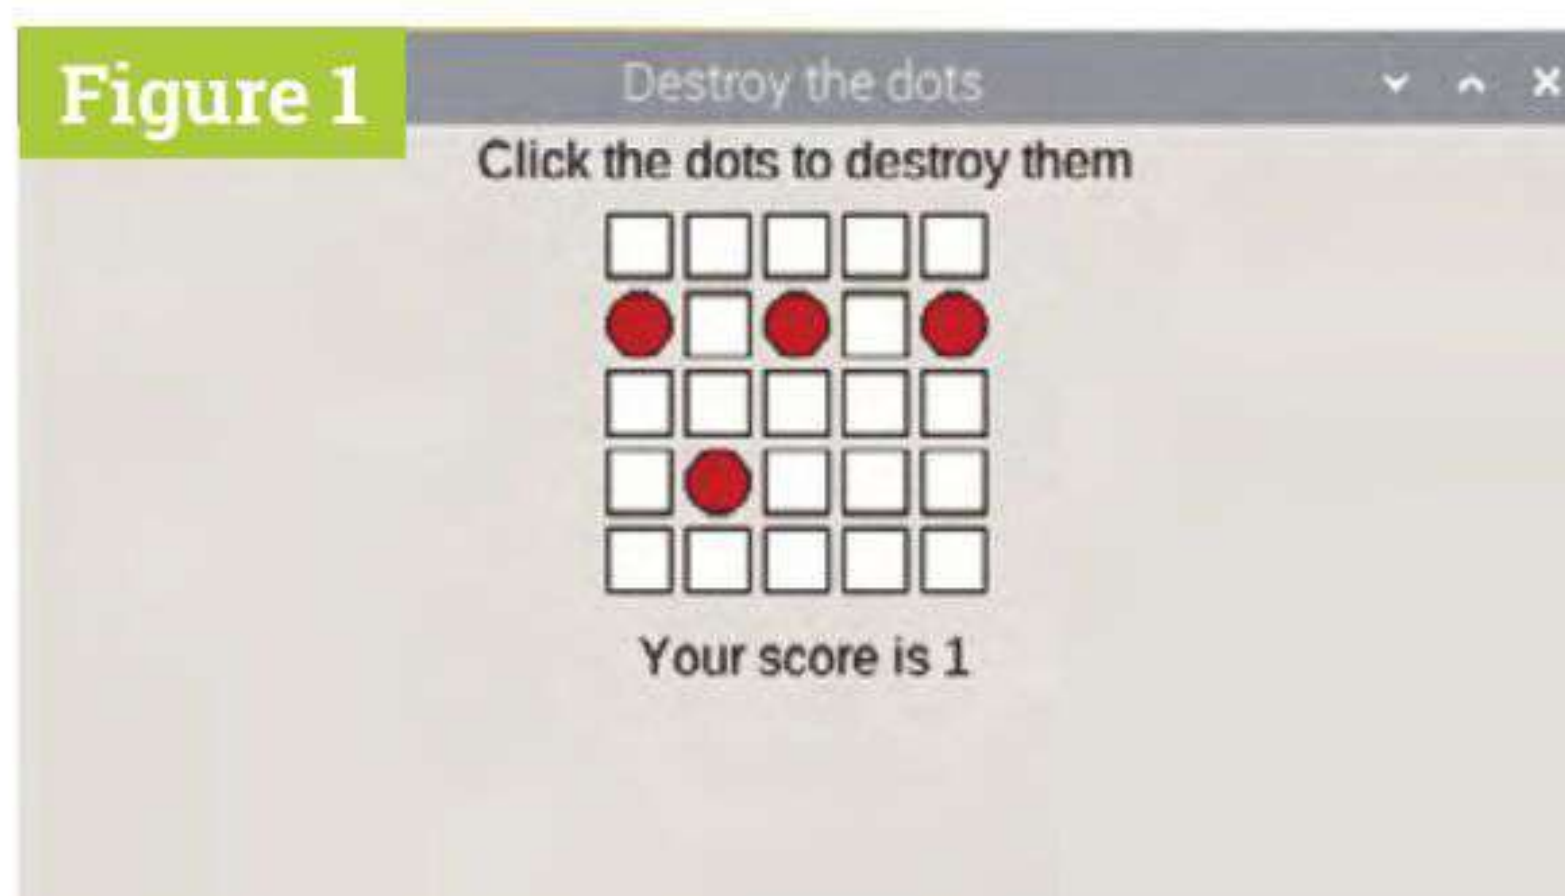

Figure 1
In this game, you need to destroy the dots before they destroy you! The board consists of a grid of squares. The squares will gradually turn into dots. To destroy a dot, click on the dot and it will turn back into a square. The aim of the game is to last as long as possible before being overrun by dots (**Figure 1**).
► **Figure 1** Destroy the red dots before they take over the board